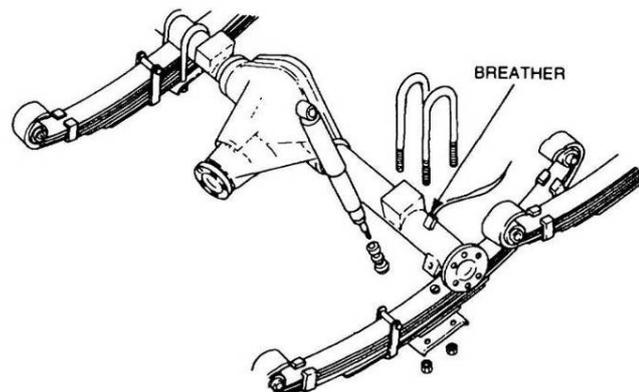

Figure 97 Removal of the Intermediate Axle Breather
- d. Remove the banjo bolt securing the breather hose to the intermediate axle housing (Figure 97) and discard the sealing washers. Remove the zip-clamps that secure the breather hose to the axle case.